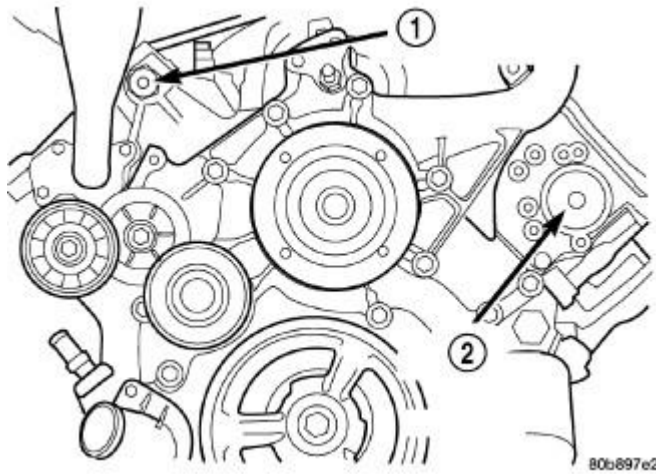

Fig. 166: Access Plugs From Left And Right Cylinder Heads
7. Remove the access plugs from the left (2) and right (1) cylinder heads for access to the chain guide fasteners. Refer to **Fig. 166**.